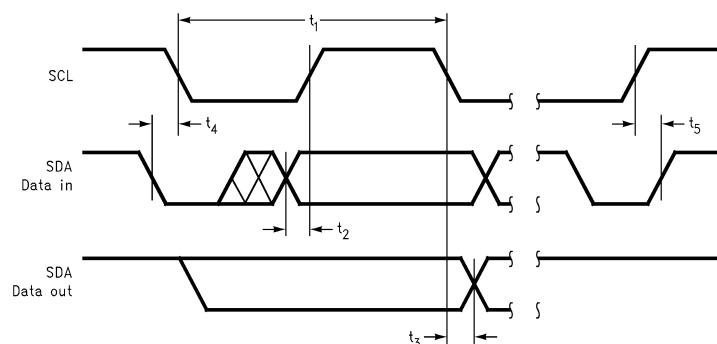
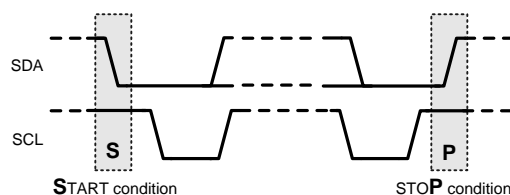
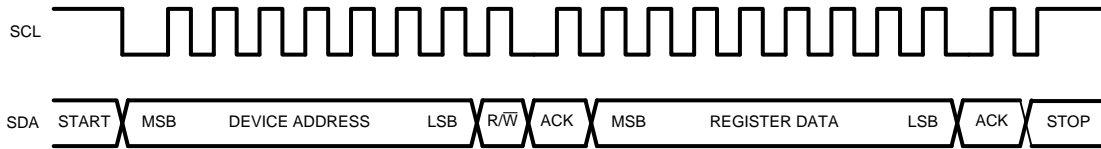

Figure 32. I2C Timing Diagram
Figure 33. Start and Stop Diagram
Figure 34. Start and Stop Diagram
- (1) "Absolute Maximum Ratings" indicate limits beyond which damage to the device may occur, including inoperability and degradation of device reliability and/or performance. Functional operation of the device and/or non-degradation at the *Absolute Maximum Ratings* or other conditions beyond those indicated in the *Recommended Operating Conditions* is not implied. The *Recommended Operating Conditions* indicate conditions at which the device is functional and the device should not be operated beyond such conditions. All voltages are measured with respect to the ground pin, unless otherwise specified.
- (2) The *Electrical Characteristics* tables list ensured specifications under the listed *Recommended Operating Conditions* except as otherwise modified or specified by the *Electrical Characteristics Conditions* and/or Notes. Typical specifications are estimations only and are not ensured.
- (3) Human body model, applicable std. JESD22-A114C.
- (4) Datasheet min/max specification limits are ensured by test or statistical analysis.
- (5) Refer to the I2C timing diagram, Figure 32.
- (3) Typical values represent most likely parametric norms at  $T_A = +25^\circ C$ , and at the *Recommended Operation Conditions* at the time of product characterization and are not ensured.
The LM49200 is controlled through an I2C compatible serial interface that consists of a serial data line (SDA) and a serial clock (SCL). The clock line is uni-directional. The data line is bi-directional (open drain). The LM49200 and the master can communicate at clock rates up to 400kHz. Figure 32 shows the I2C interface timing diagram. Data on the SDA line must be stable during the HIGH period of SCL. The LM49200 is a transmit/receive slave-only device, reliant upon the master to generate the SCL signal. Each transmission sequence is framed by a START condition and a STOP condition (Figure 33). Each data word, device address and data, transmitted over the bus is 8 bits long and is always followed by an acknowledge pulse (Figure 34). The LM49200 device address is 11111000.
The I2C bus format is shown in Figure 34. The START signal, the transition of SDA from HIGH to LOW while SCL is HIGH, is generated, alerting all devices on the bus that a device address is being written to the bus.